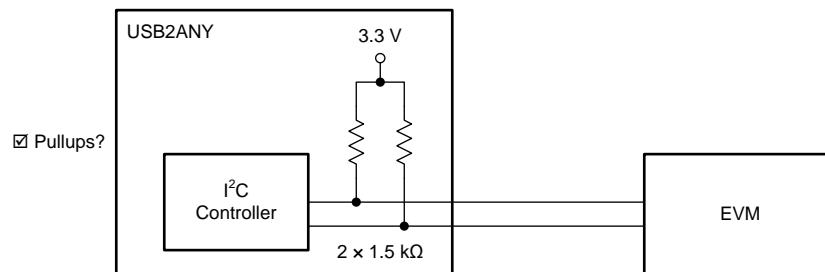

Figure 11. I2C Bus Internal Pullup Connection
- Check the *Pullups?* checkbox if using the I2C pullup resistors in the USB2ANY interface adapter (refer to Figure 11). This is the most common setting.